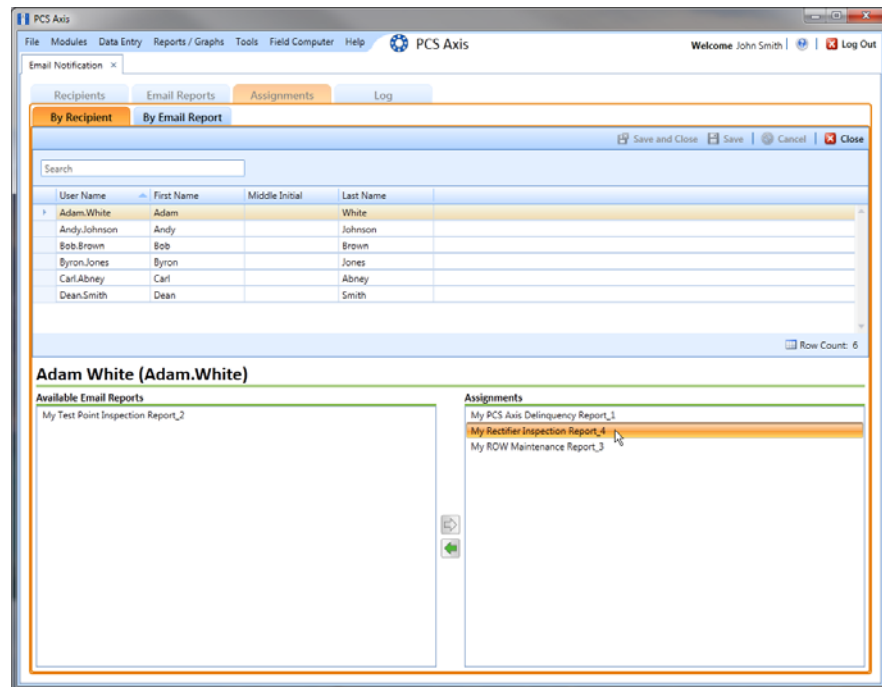

Figure 11-18. Email Notification Assignments By Recipient
- a Click **Tools > Email Notification > Assignments** tab. Then click  **Add/Remove Assignments** to open the *Email Notification Assignments* window (Figure 11-18).
- 2) Double-click a report in the *Assignments* pane to move it to the *Available Email Reports* pane. Then click  **Save**. The recipient receives email notifications only for those reports listed in the *Assignments* pane (Figure 11-18).